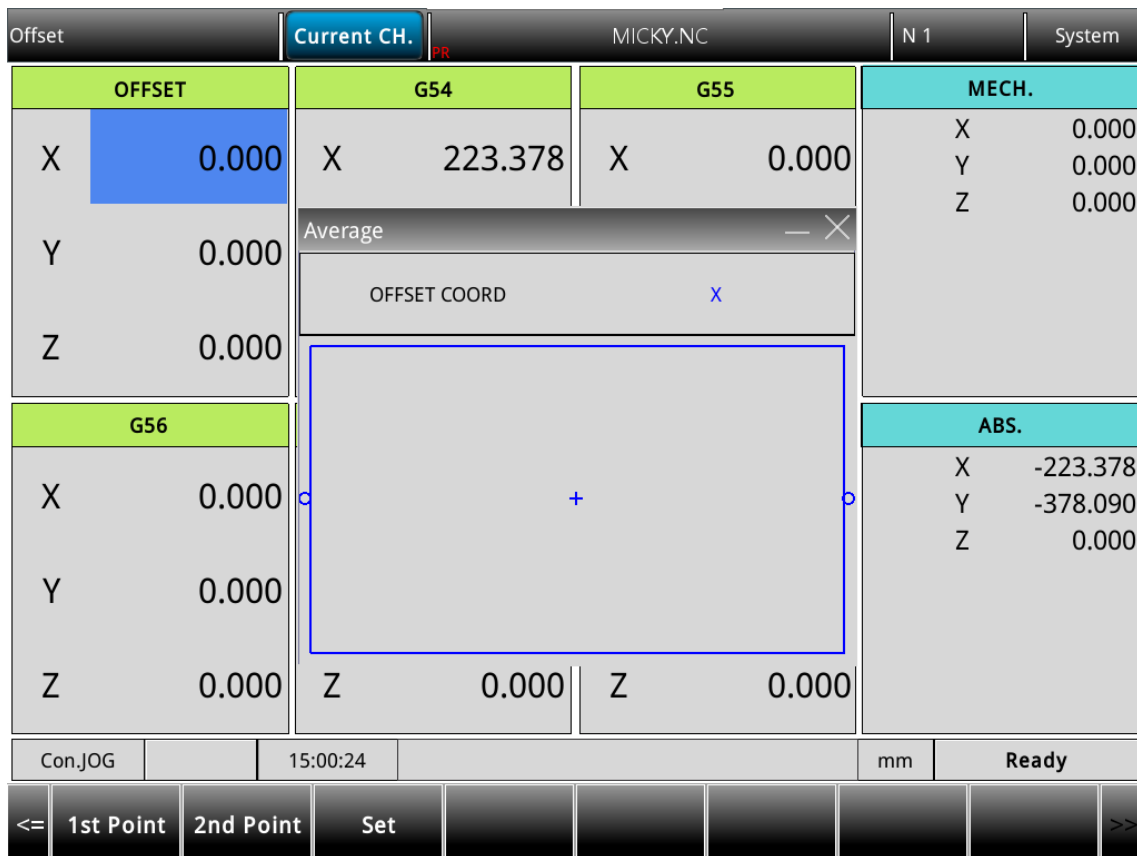

Figure 3.5.1.1.1
- (1) Set the system to JOG or MPG mode and move the machine axis to the initial contact point of the workpiece in X-axis direction.
- (2) Press **OFS** to enter the OFS screen.
- (3) Press **Coordinate** to display the corresponding function bar.
- (4) Press , , , and  to move the cursor to the X-coordinate field of a specific coordinate system.
- (5) Press **Center** to enter its setting screen.
- (6) Press **1st Point** and the circle on the left side of the rectangle becomes red, as shown in Figure 3.5.1.1.1, meaning the machine coordinates of the first point is recorded.
- (7) Continue to move the machine axis to the other contact point of the workpiece in X-axis direction.
- (8) Press **2nd Point** and the circle on the right side of the rectangle becomes red in Figure 3.5.1.1.1, meaning the machine coordinates of the second point is recorded.
- (9) Press **Set** and the system automatically calculates the central point between the machine origin and the workpiece position in X-axis direction and sets this point as the center of X axis in the coordinate system, which is the workpiece origin of X axis.